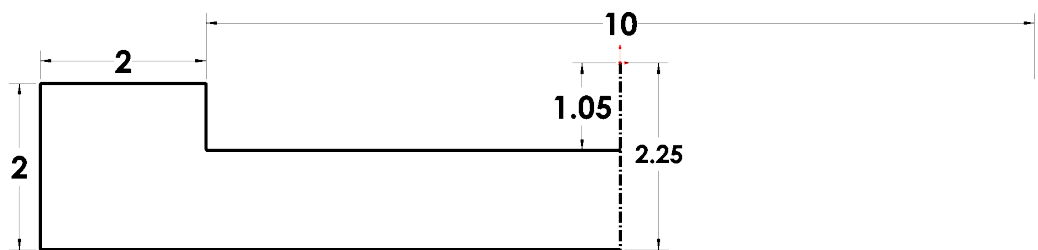

Fig. 4
Step 9. Click **Smart Dimension**  (S) on the Sketch toolbar.
Step 10. Add dimensions, **Fig. 4**. Dimension double distance dimension across horizontal line last. To double distance dimension, click the vertical line and then the centerline, move the cursor to right side of the centerline and click. Key-in 10 and press ENTER.
Step 11. Click **Zoom to Fit**  (F) on the View toolbar.